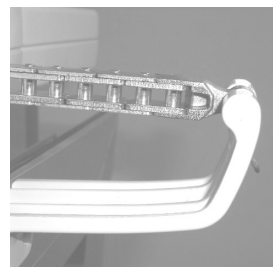

Figure 16
2. Hold the window with one hand and pull the pin out of the opening with the other hand (we recommend to do so with the opening of at least 10 cm to facilitate the release of the window) - Fig. 16.